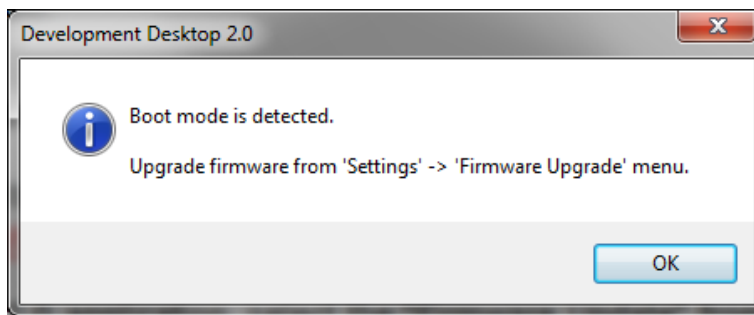

Figure 7 : Development Desktop 2.0\_Boot mode
- 3) Click on “OK” button in the boot mode detected screen (Figure 7).